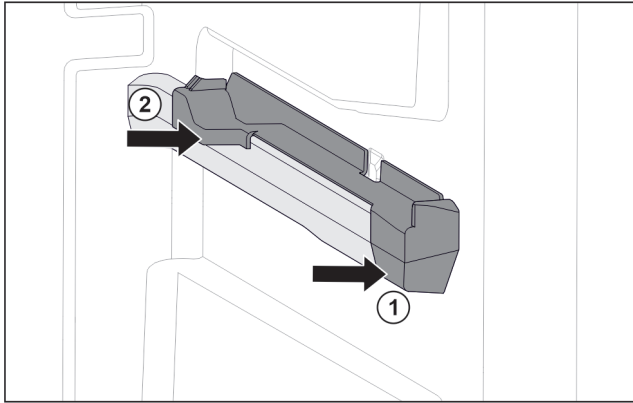

Fig. 129 Attachment on the right moulded rib
- ▶ Position attachment on moulded rib at the front. *Fig. 129 (1)*
- ▶ Press on attachment at the back. *Fig. 129 (2)*